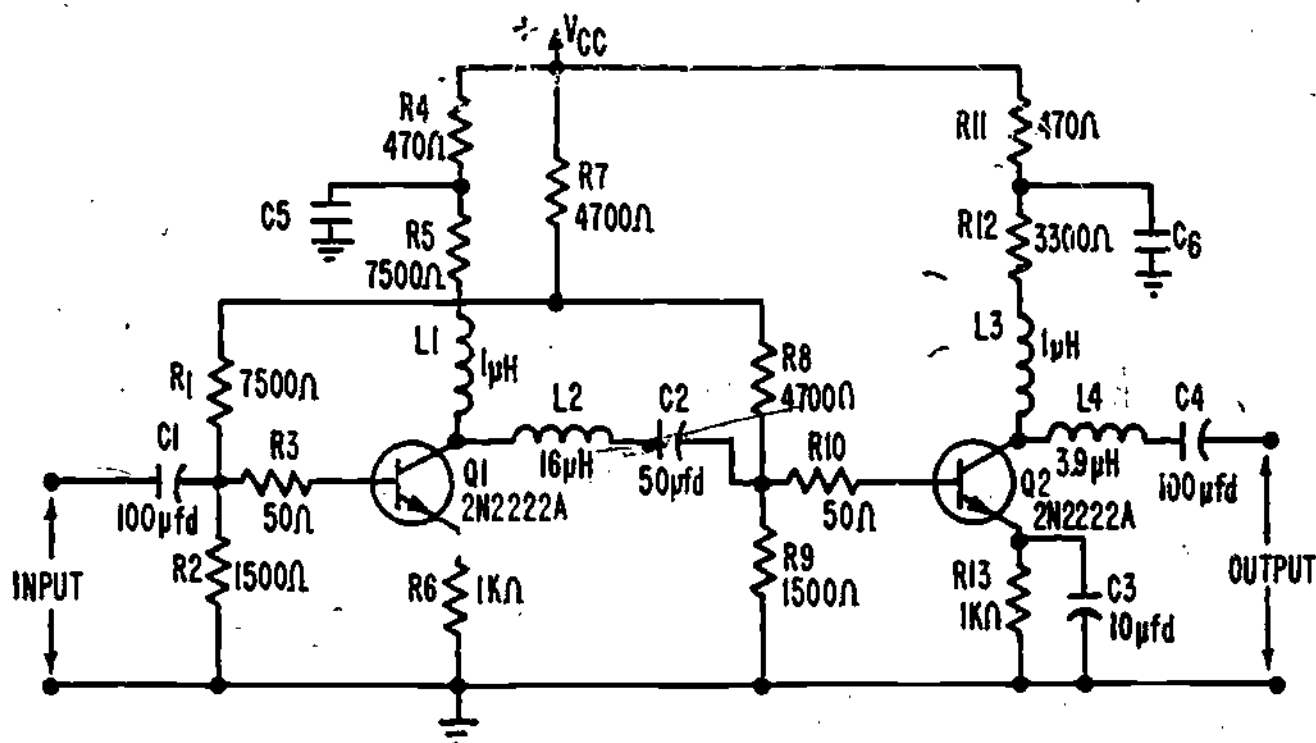

Figure 21
18. Up until now in this lesson, the high and low frequency compensation circuits have been shown in equivalent circuit form. Now let's place them in an actual video amplifier circuit with biasing components present. Figure 21 shows a two-stage video amplifier circuit from the NIDA trainer.
If Figure 21, the two components which provide high frequency series peaking are _____ and _____.